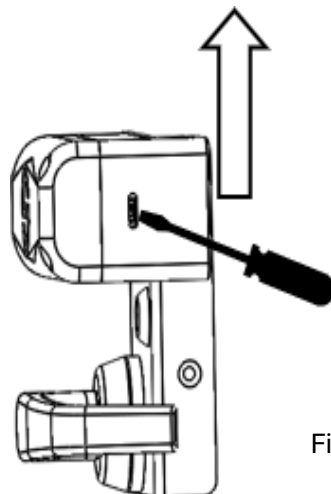

Figure 4
- b. For Left-Hand mounting (counterclockwise rotation to open), orient the ABR as needed, ensuring the switch is in the Down setting. Then, reposition the directional switch to the UP setting (Figure 4).